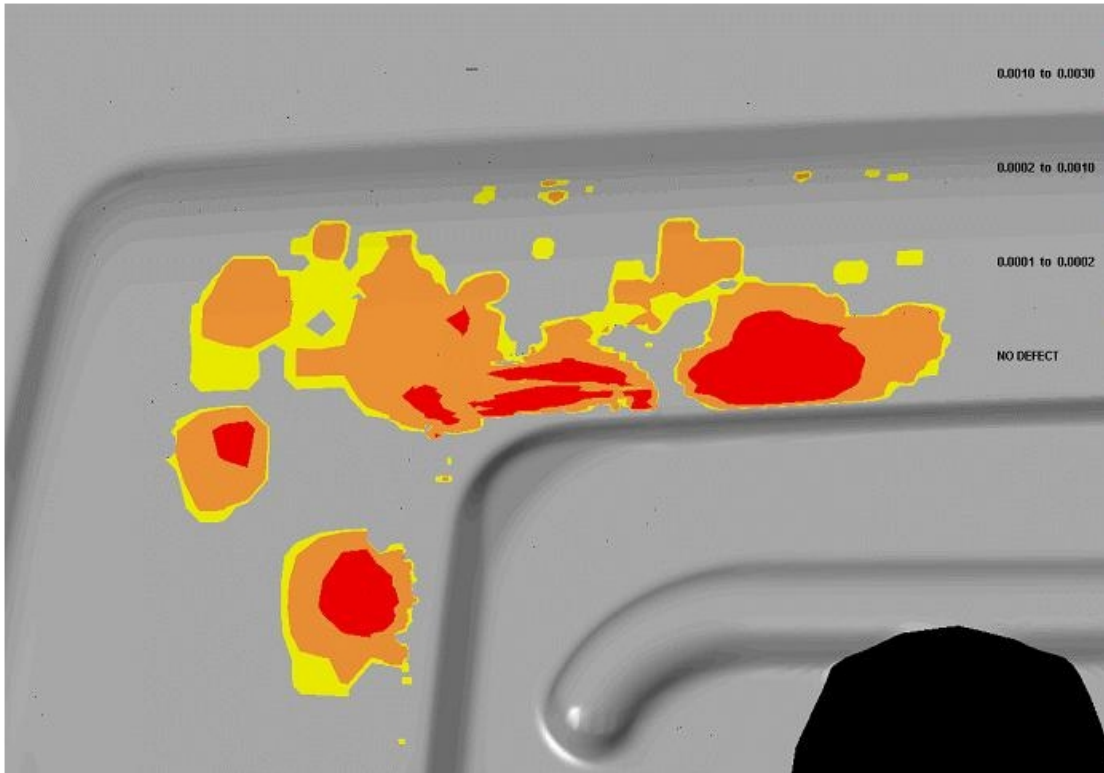

Figure 7.52 An Example for Defect Detection
- Click any single frame to display defect contour as shown in Figure 7.52. The contour color is in accordance with detected defect depth. The red color shows the area on the mesh with the highest defect level. The user can define different defect levels for estimation. Element Result will perform calculation according to the element result or node result.